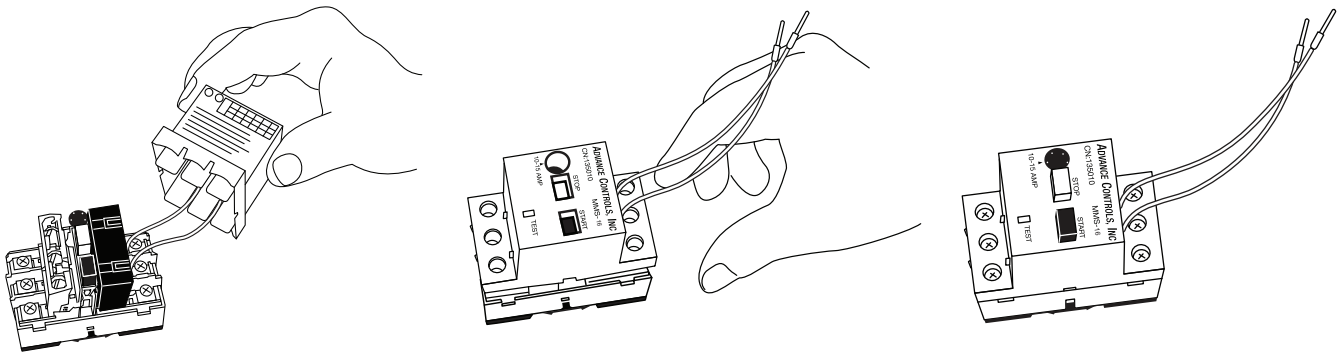

Fig. 118 — Running the Leads and Replacing the Cover
6. Run the 2 white leads from the shunt trip unit through the 2 holes in the MMS cover and carefully replace the MMS cover. See Fig. 118.